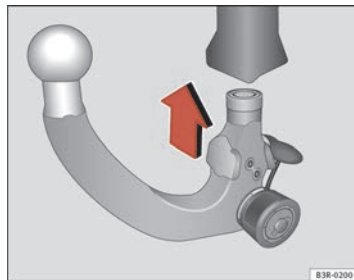

Fig. 158 Removable towing bracket: inserting the ball joint
- With the spring mechanism in the ready position, insert the ball joint into the mounting fixture and push it upwards ⇒ page 199, fig. 158 in the direction indicated (arrow) ⇒ **!**. It should lock into position automatically. You should now clearly hear it click into place.